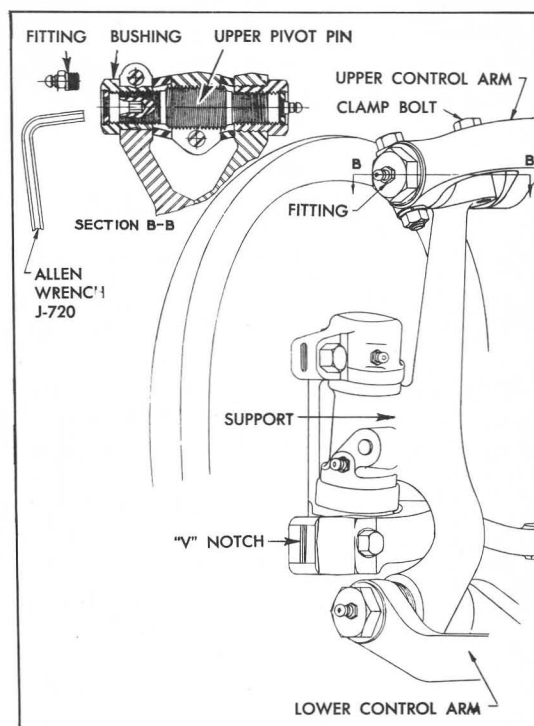

Figure 6-37—Steering Knuckle Support and Pivot Pins
1. Loosen pivot pin clamp bolt on upper end of knuckle support. Remove grease fitting from the clamped type upper pivot pin bushing. This bushing is on front end of the right pivot pin and on rear end of left pivot pin. See figure 6-37.